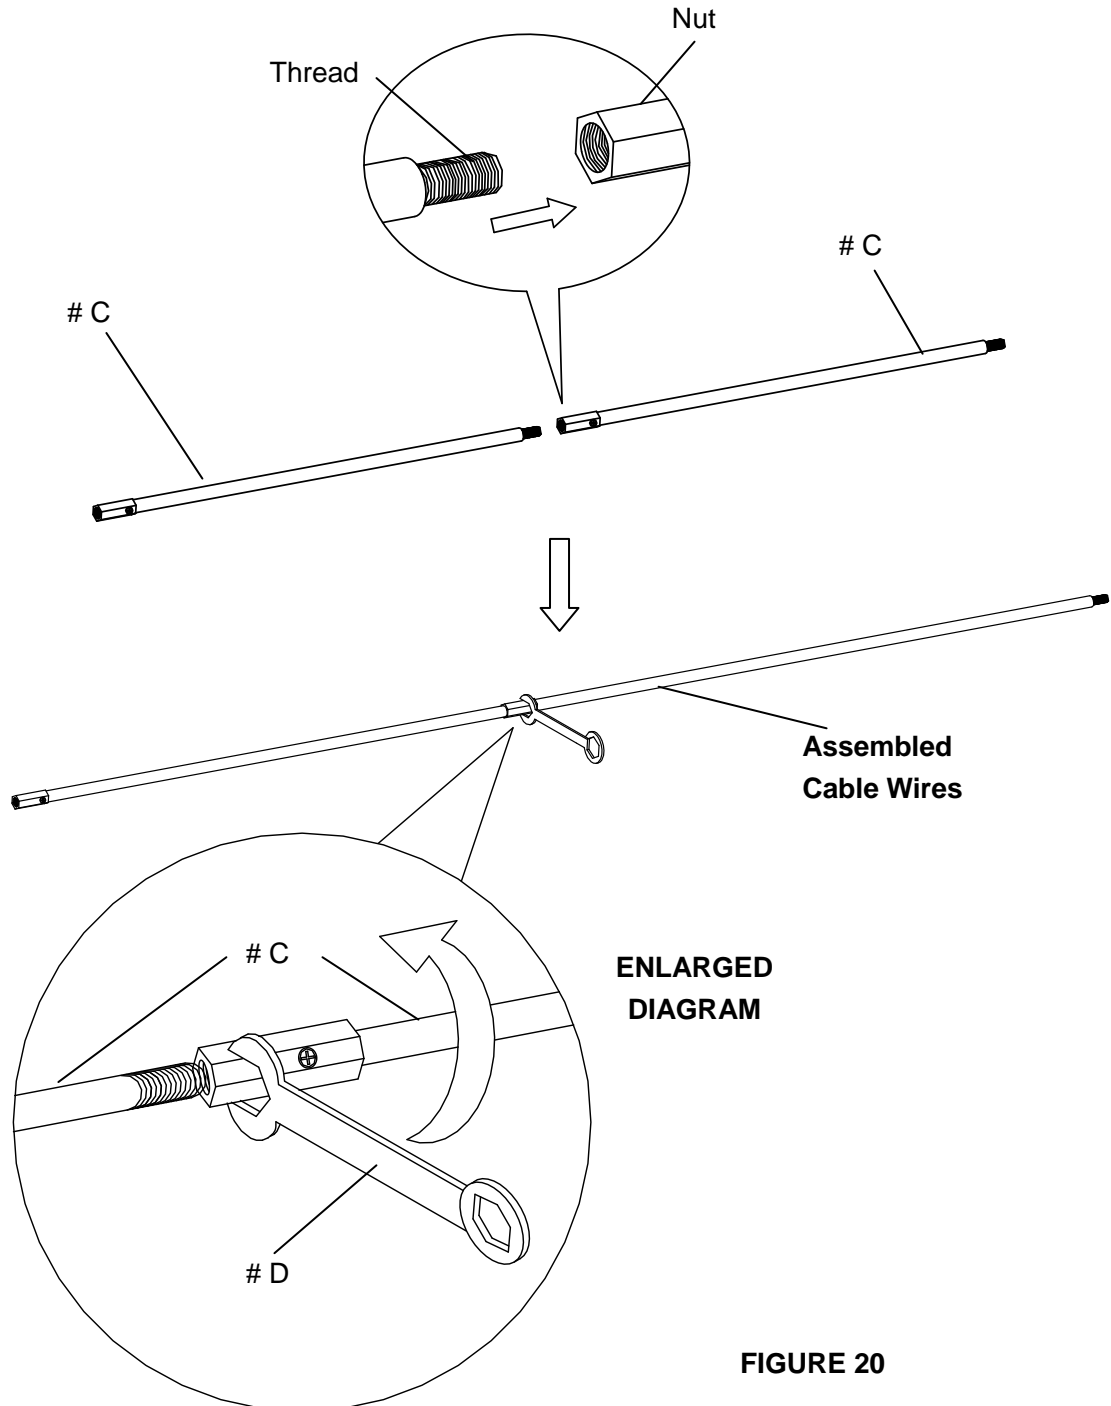

FIGURE 20
D. Separate all the Cable Wire (# C) into two groups and assemble them with Wrench (# D) as shown in FIGURE 20.